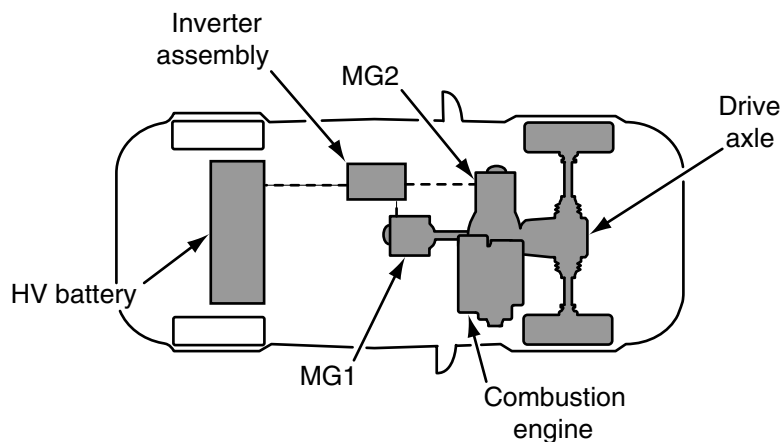

Figure 17–4 Toyota Prius components. © Cengage Learning 2012
High-Voltage Battery. A high-voltage (HV) battery is located in the forward area of the trunk, just behind the rear seat (Figure 17–4). The HV battery provides electrical energy to the drivetrain as required. The HV battery consists of multiple nickel-metal hydride (Ni-MH) cells that are connected in series.
MG2. Unlike Honda's IMA system, the Prius uses a three-phase AC electric motor/generator (MG2) (Figure 17–4) to provide most of the power for light to moderate acceleration and for cruising up to 40 MPH. MG2 uses electrical energy from the HV battery to create mechanical energy to accelerate the vehicle. MG2 also uses mechanical energy from the front-drive wheels during coasting and braking to create electrical energy to recharge the HV battery. With the original THS design, MG2 was rated at 30 kW or 44 horsepower and 258 ft.-lb. of torque, with the maximum torque being achieved from 0 to 400 RPM.
INZ-FXE 1.5 L Gasoline Engine with VVT-i. The Prius uses the INZ-FXE 1.5 L four-cylinder gasoline engine with the Variable Valve Timing with intelligence (VVT-i) system. The engine is mounted transversely in the engine compartment on the passenger side of the vehicle (Figure 17–4). Through the 2003 model year, it was rated at 70 horsepower and 82 ft.-lb. of torque. The engine is limited to 5000 RPM, thereby allowing the use of lighter components designed to improve efficiency. The engine also uses the Atkinson cycle, which retards the closing of the intake valves. This reduces cylinder pressures to an effective 9:1 compression ratio while allowing the power stroke to take full advantage of a 14:1 expansion ratio. This also reduces the engine's pumping losses.